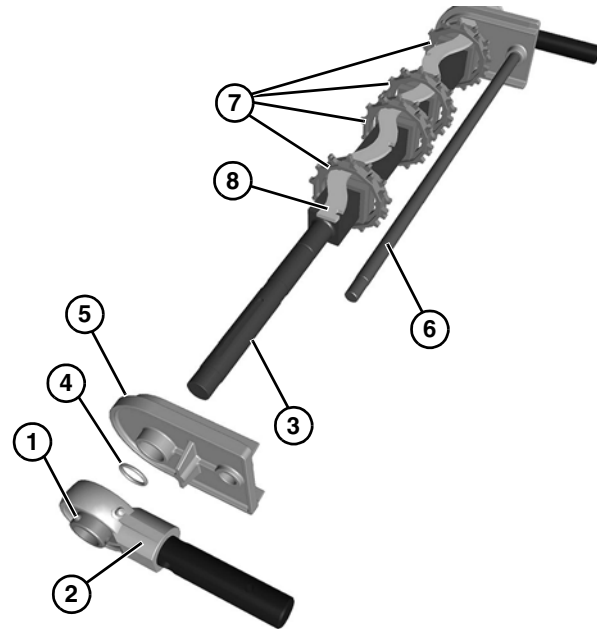

Figure 62
- Use a hex wrench to loosen two set screws (**Figure 62, item 1**) on the bearing shaft assembly.
- Slide the bearing shaft assembly (**Figure 62, item 2**) off the drive spindle (**Figure 62, item 3**).
*When removing tracking plate, be certain not to lose O-ring (**Figure 62, item 4**).*
- Slide the tracking plate (**Figure 62, item 5**) off the drive spindle.
- Remove pinch guard shaft (**Figure 62, item 6**).
- Remove the sprockets (**Figure 62, item 7**) and alignment bar (**Figure 62, item 8**).